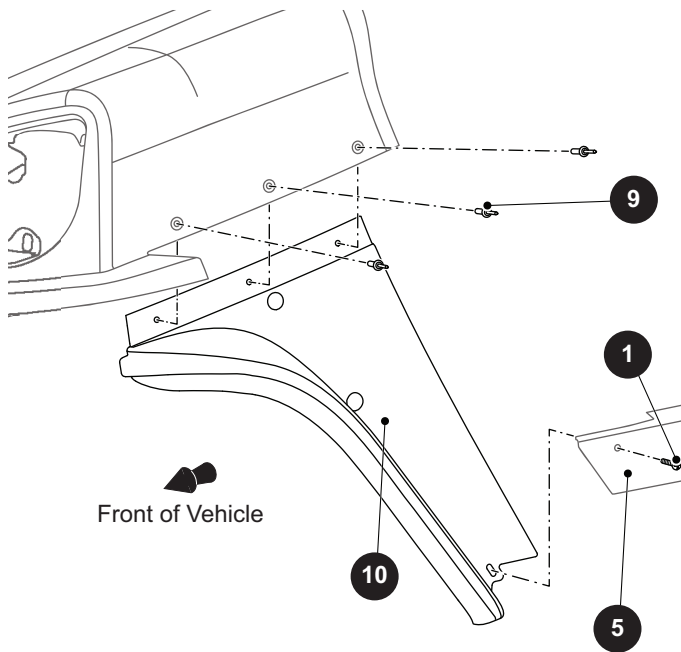

Fig. 5 Fender Flare
2. Drill out the rivets (9) securing the fender flare (10) to the cowl (Ref Fig. 5).